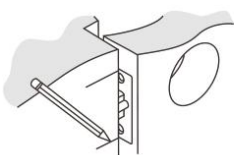

Figure 4a
- Mark center hole on the edge of the jamb, level with the center of the deadbolt on the door edge (Figure 4a).